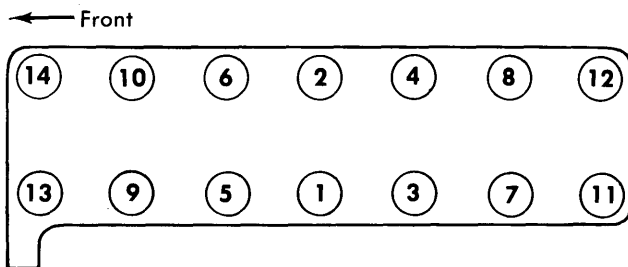

Fig. 2 Cylinder Head Tightening Sequence (Loosen in Reverse Sequence)
2) Insert head bolts and tighten ① and ② to 7-12 ft. lbs. (1.0-1.6 mkg). Install and align sprockets and timing chain. Install remaining components in reverse order of removal, using new seals, gaskets and sealant where required.
3) Tighten head bolts in several steps in the sequence illustrated in Fig. 2 to final specified torque. Recheck torque after engine has been running for several minutes.